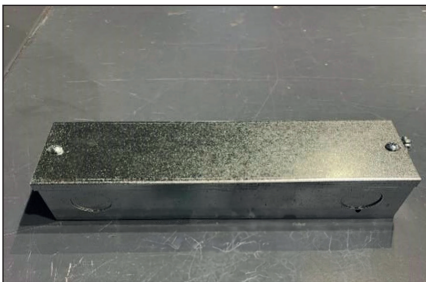

Fig. 1
- Unpack New construction housing, Hanger bars (Typ. 2) and hanger bars screws (Typ. 4) from enclosed packaging. [ Fig. 1 ]